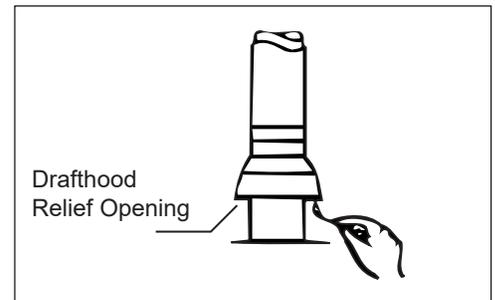

Fig 5
- Spillage can be detected by introducing smoke into the flue products ahead of the draft hood or by observing if the flame of a match goes out when it is held at the edge of the draft relief opening (see Fig. 5).